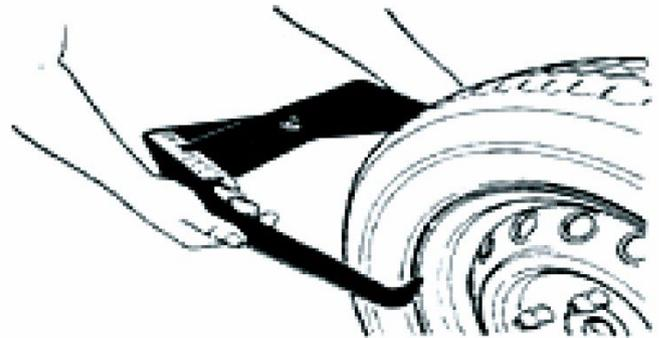

fig.2
- \* Setting the "b" value: Read off the diameter indicated on the wheel or use the width gauge (as shown in Fig.2), then enter the value using the  or  buttons.